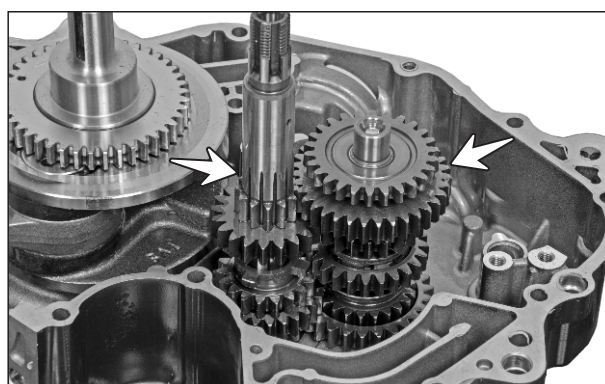

Fig. 3.183
- Assemble the counter shaft assembly (clutch shaft) and drive shaft assembly as set in crankcase assembly LH. (Fig. 3.183)